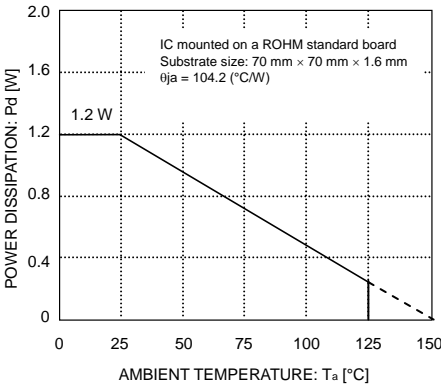

Fig. 23
Refer to the heat mitigation characteristics illustrated in Figs. 23, 24 and 25 when using the IC in an environment where T_a ≥ 25°C. The characteristics of the IC are greatly influenced by the operating temperature. If the temperature is in excess of the maximum junction temperature T_{jmax}, the elements of the IC may be deteriorated or damaged. It is necessary to give sufficient consideration to the heat of the IC in view of two points, i.e., the protection of the IC from instantaneous damage and the maintenance of the reliability of the IC in long-time operation.
In order to protect the IC from thermal destruction, it is necessary to operate the IC not in excess of the maximum junction temperature T_{jmax}. Fig. 23 illustrates the power dissipation/heat mitigation characteristics for the TO252 package. Operate the IC within the power dissipation Pd. The following method is used to calculate the power consumption Pc (W).